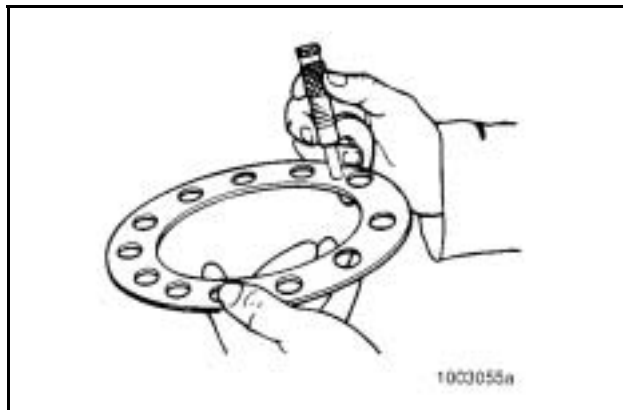

Figure 74
1. Measure the thickness of the old shim pack that was removed from under the pinion cage with a micrometer. Record the measurement for use later. **Figure 74.**